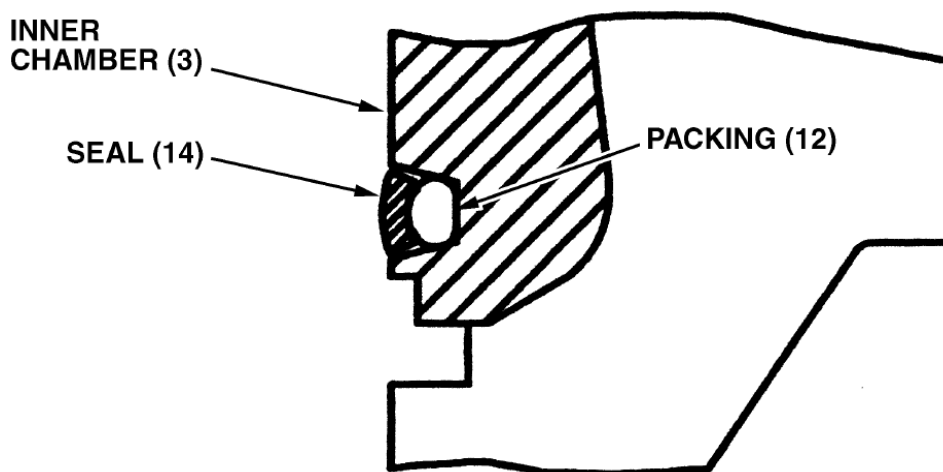

Figure 8. Forming the Piston Seal
- M. Lubricate seal (14) with petroleum jelly. Gently roll the seal (14) between your fingers so that it forms a slight U shape. See Figure 8 and insert seal (14) into the seal groove inside of inner chamber (3), covering packing (12).